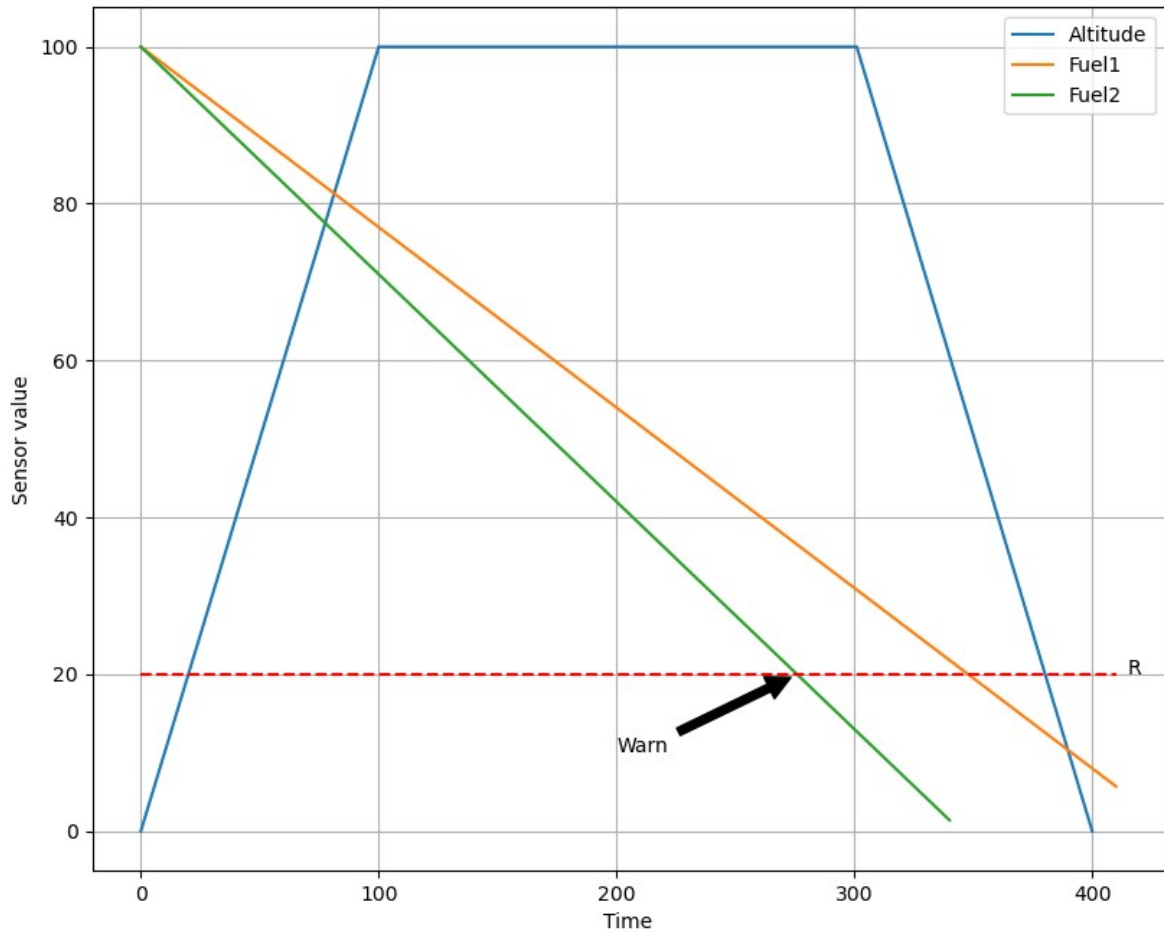

Figure 1: Plot showing altitude and two types of fuel consumption. R represents the fuel reserve level.
- a. (10 marks) The altitude sensor A1 generates the altitude as per Fig 1. This is communicated to the Rpi via a serial connection. The altitude values are recorded in a CSV file `alti.csv`.
- a. (10 marks) The fuel sensor M1 generates the fuel values as per Fig 1. This is communicated to Rpi via a wireless link. The fuel values are recorded in a CSV file `fuel.csv`.